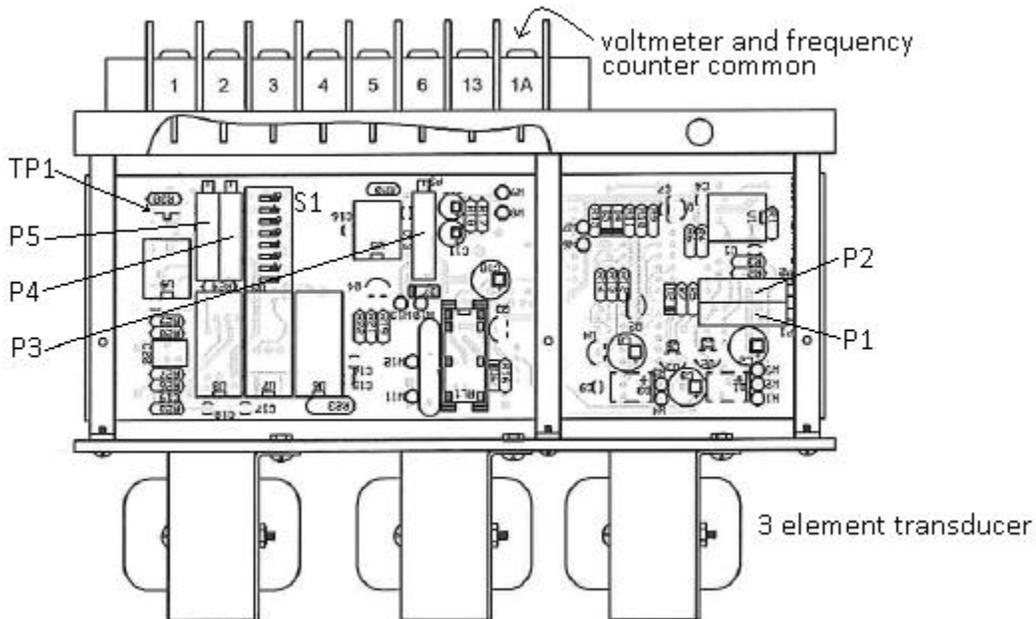

Fig. 11
When adjustments to the watt-hour or watt output are necessary it is important to know that the watt-hour circuit must be calibrated before the watt adjustments. This requires that the unit be removed from the enclosure to access the internal adjustment potentiometers along with access to a test point (TP1) to be measured with a Universal Counter (Frequency Counter). See fig. 11.
- e) Remove unit from enclosure Fig. 11.